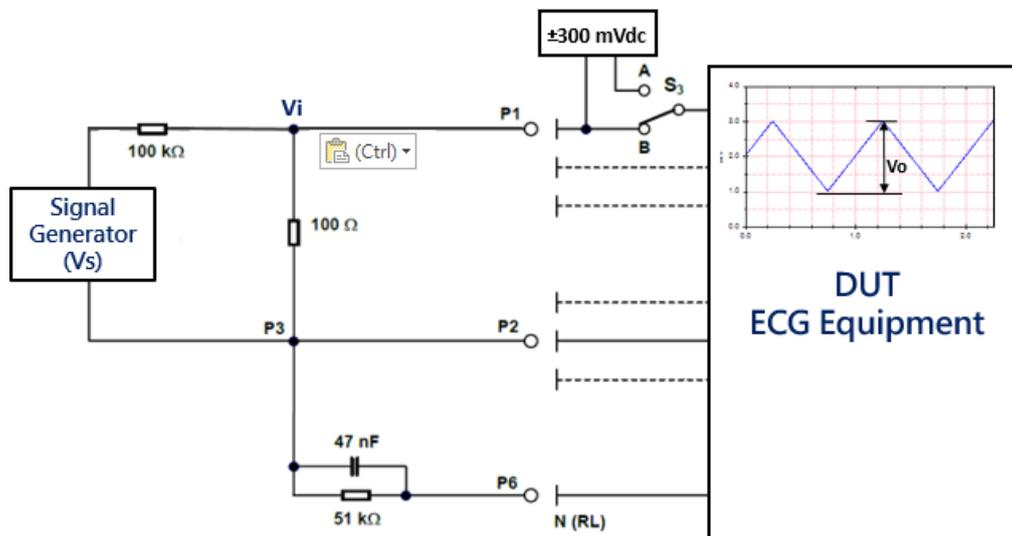

Figure 4, Test system diagram provided in various ECG equipment standards
These items used to test the amplitude performance of ECG equipment are covered in the three ECG standards. The spirit and purpose of the test are the same, but the test methods are quite different. Figure 4 is a system test chart in various standards, in which the peak-to-peak voltage V_s generated by the signal generator passes through a 1000 times voltage divider circuit and the voltage is attenuated by 1000 times, expressed in V_i in the figure. Therefore, V_i is the DUT input voltage, V_i connects to P1, and then the electrode wire to be tested of the ECG device is connected to point P1. The N (RL) electrode wire is connected to the negative terminal of the signal generator through a circuit (51k Ω in parallel with 47 nF) that simulates the electrode and the skin contact impedance.